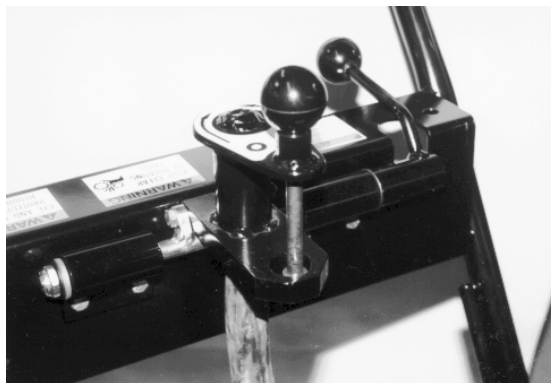

FIGURE 15
- 2) Rotate the height adjustment lever counterclockwise to raise the blade to its maximum position above the work surface. FIGURE 15.